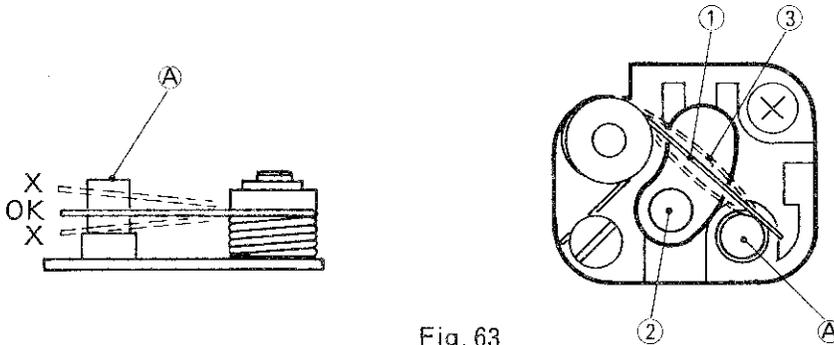

Fig. 63
2. To adjust the shutter speed, bend contact ① for adjustment of the clearance between trigger switch contact ① (Fig. 63) and operation pin. If the clearance is increased for ②, the shutter speed is reduced. (3)
Note: When bending this contact, pin ① (Fig. 63) and contact should hit each other in parallel. Check that supply voltage is 6 V.